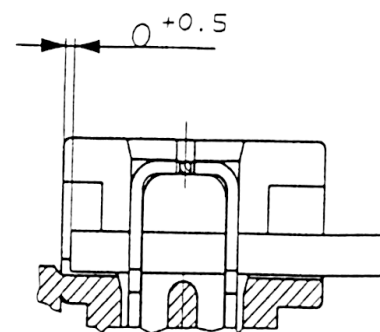

Fig. 8
It is not allowed that the wire overlaps the housing (Fig. 8, see also item 4.5).